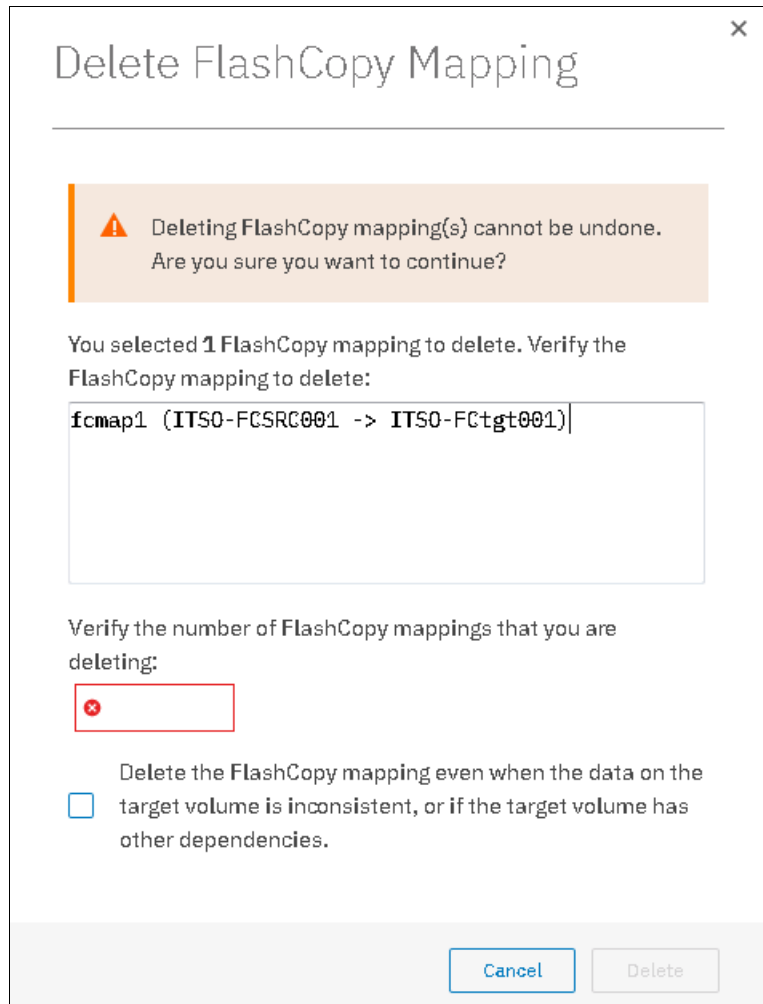

Figure 10-55 Delete FlashCopy Mapping
3. The Delete FlashCopy Mapping window opens, as shown in Figure 10-55 on page 518. In the “Verify the number of FlashCopy mappings that you are deleting” field, you must enter the number of volumes that you want to remove. This verification was added to help avoid deleting the wrong mappings.
4. Click **Delete**, as shown in Figure 10-55 on page 518.